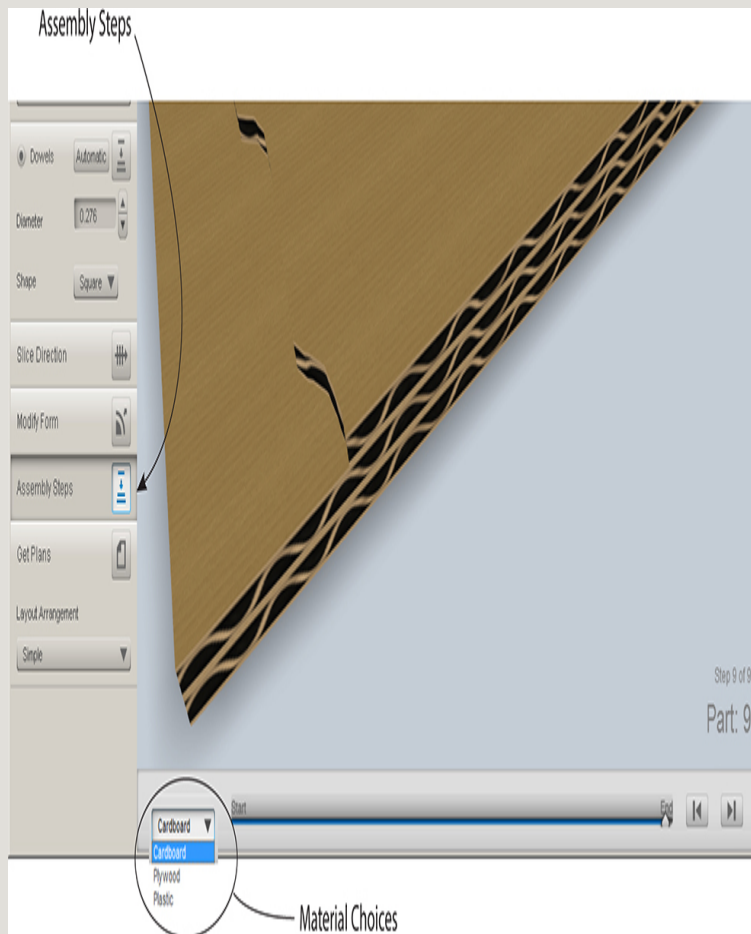
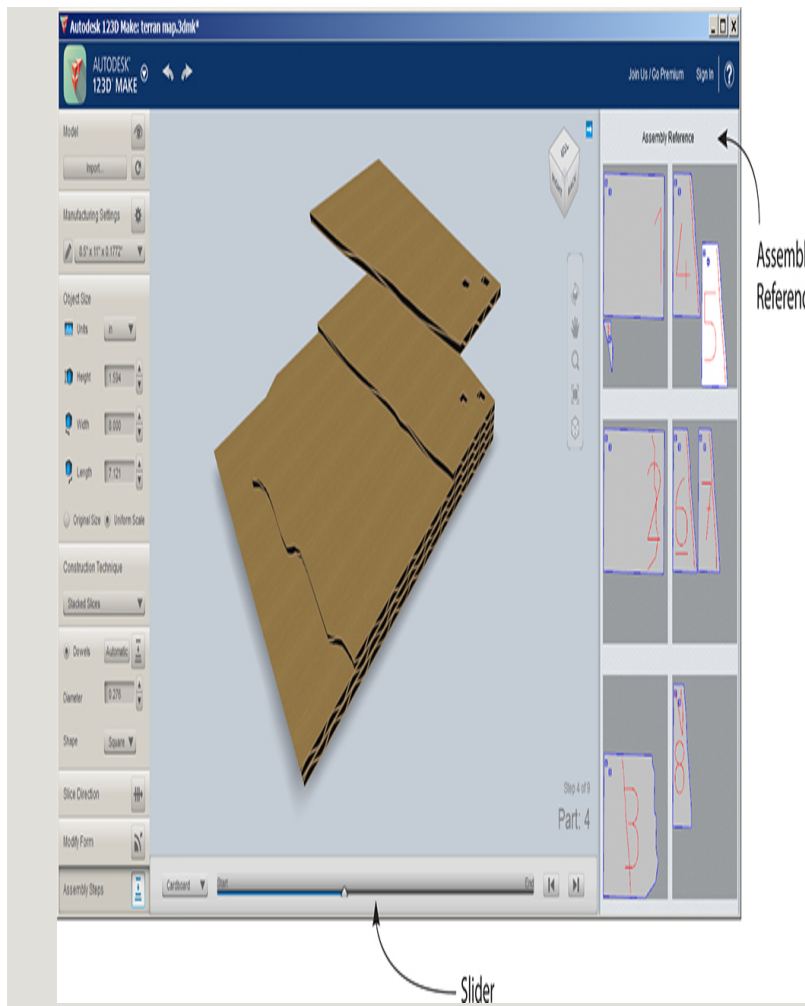
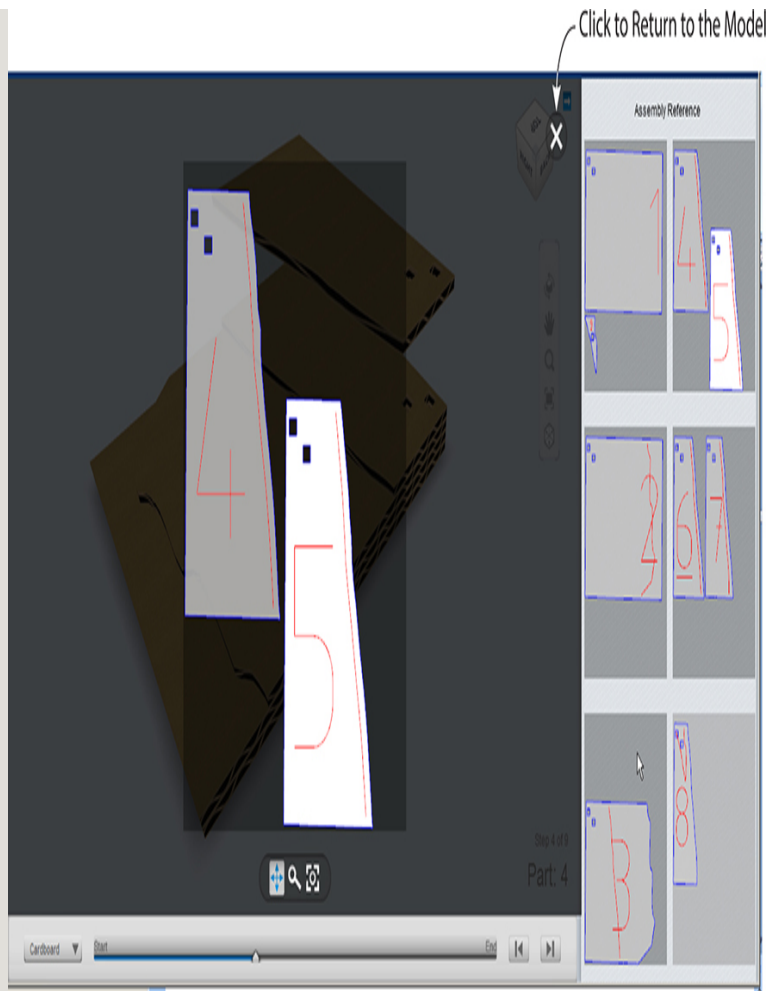

Figure 7-21 Click on Assembly Steps to choose the material.
Figure 7-22 Move the slider to view an animation.
Figure 7-23 View an assembly sheet by clicking on its graphic.
2. Click on the Assembly Steps icon and choose the material (Figure 7-21). Drag the mouse along the slider at the bottom of the screen to watch an animation that puts the parts together (Figure 7-22). To view an assembly sheet, click on it in the Assembly Reference panel (Figure 7-23). Move the sheet by clicking and dragging; scroll the mouse wheel to zoom in on a part; click the X in the upper-right corner to return to the model.